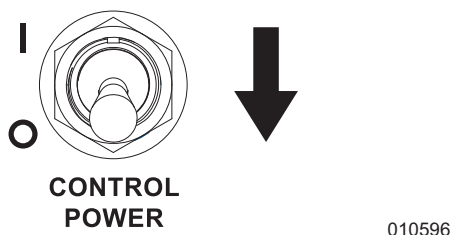

Figure 3-28. Controller Power—OFF (O)
5. See Figure 3-28. Switch controller power switch to OFF (O).